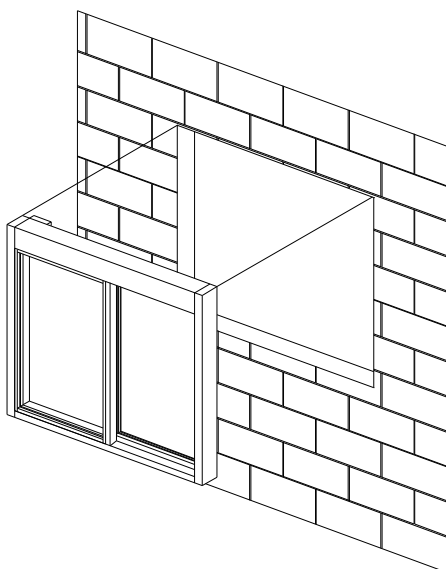

Figure 3
NOTE: There are two wall-mounting applications. The mounting space can be surrounded either by sidelights (windows) or masonry. In both cases the upper part of the window above the counter top (window sill) fits flush with the outside of the wall. The illustrations will show the walls with the sidelights, as this is the most common application. (Figure 3 and 4)
NOTE: If mounting the window in a masonry wall the window mounts flush with the outside finishing of the building. Drill points are scribed directly into the masonry. The outside edge of the mullion should be flush with the outside finishing of the building. (See Figure 3 and 4)
5. Position the window and place it into the customer-supplied frame. As shown in Figure 3 and 4